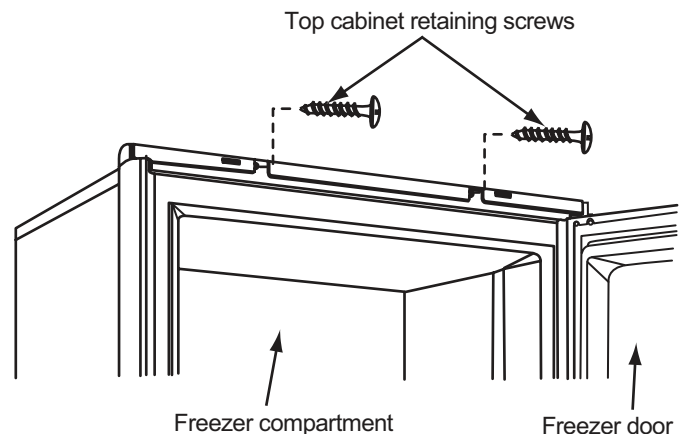

Figure 35. Top cabinet retaining screws.
5. Install the two retaining screws in the top of the cabinet. See Figure 35.